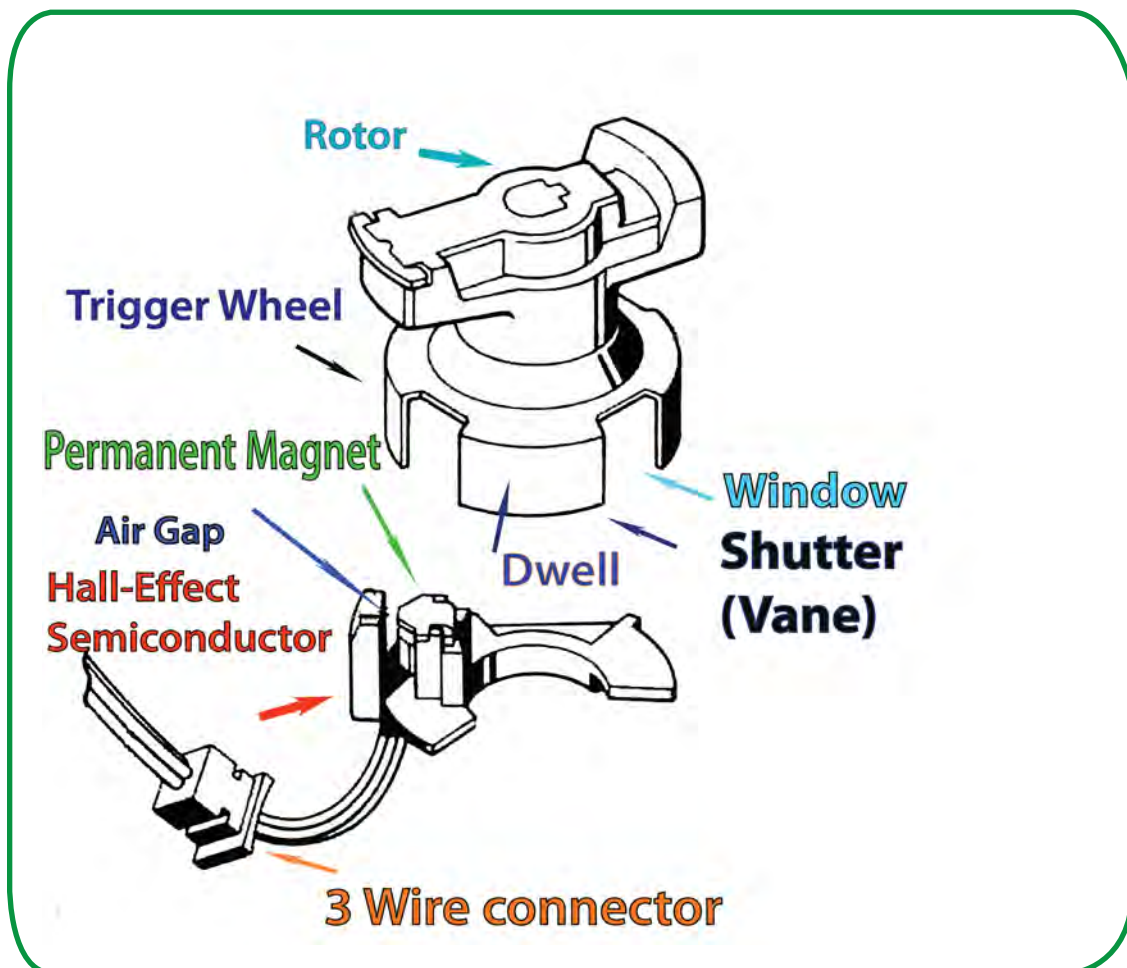
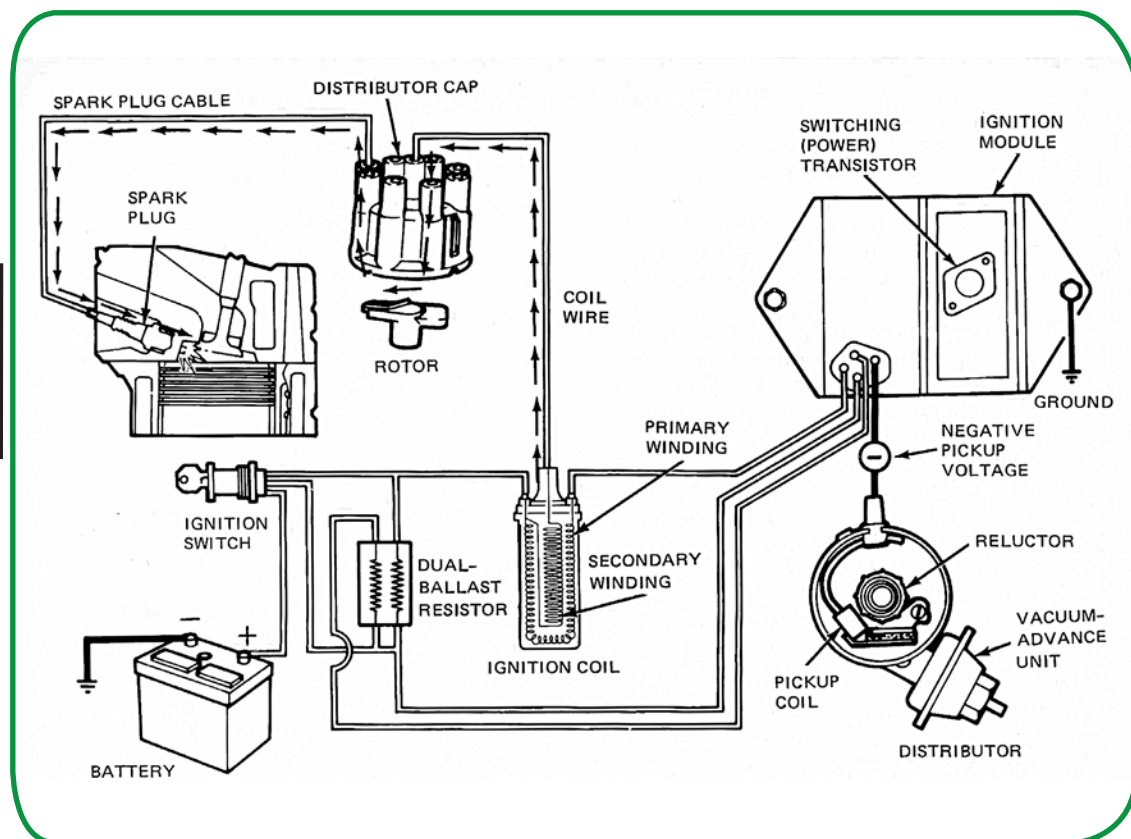

Figure 7-3. This is an example of a Hall effect switch
Figure 7-8. An example of a distributor type electronic ignition system.
Contact point distributors open the circuit mechanically by opening and closing a pair of contact points. The length of time the points are closed is referred to as the dwell angle and expressed as the number of degrees of distributor rotation. The points are operated by a breaker cam on top of the distributor shaft. Electronic systems use primary triggers to switch the primary circuit on and off. The reluctor in the electronic distributor performs the same function as the points only magnetically. Refer to figure 7-3 for examples of primary circuit triggers. The ignition systems triggering device monitors the position of the camshaft or crankshaft and sends a signal to the switching device at the correct time for ignition of the air fuel mixture to produce a compromise between maximum power and minimum polluting emissions.
A Hall-effect switch has a rotating trigger wheel and a stationary sensing unit. The Hall effect is the ability to generate a low voltage in a semiconductor by passing current through it in one direction and applying a magnetic field at right angles to its surface. Hall-effect switches in distributors are made up of a Hall element, a permanent magnet and a shutter wheel that consists of alternating vanes and windows which pass between the Hall semiconductor and the permanent magnet. When the shutters enter the gap between the permanent magnet and the Hall effect semiconductor, it causes the Hall output voltage to change. This voltage signal is sent to the Ignition Module (IM) or Engine Control Unit (ECU) which controls the primary circuit switching on and off. Refer to figure 7-3.
Most modern engines use electronic ignition systems so that they can meet or exceed Environmental Protection Agency (EPA) regulations. Electronic Ignition systems have primary and secondary circuits just like conventional systems. The main difference between the systems is the primary circuit switching mechanism. Refer to figure 7-3 that shows various types of primary circuit triggers which switch the primary circuit on and off. The primary circuit trigger signals the ignition module or Power Control Module (PCM) when to open the circuit. Refer to figure 7-8.